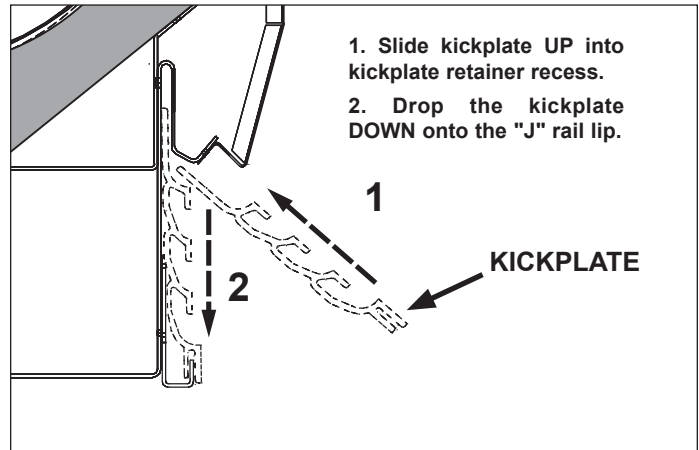

Fig. 7 Kickplate installation
11. Insert top of kickplate into the kickplate retainer. Slide the kickplate up into the retainer, then down onto the "J" rail (Fig. 7). Be certain that the bottom of the kickplate is fitted over extruding "lip" of the "J" rail.